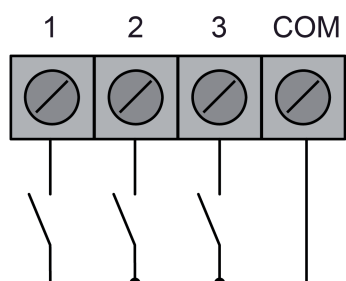

Figure 3: Connection of potential-free contacts to the extension inputs
- (3) Slide-in shaft for rotary knob with push-button (incremental encoder)
- (4) Terminals for extension inputs
- (5) KNX bus connection
- (6) Device with supporting plate
- (7) Design frame (accessories)
- (9) Design control button (accessories)
- Connect KNX bus line with terminal to bus connection (5).
- Optionally, connect potential-free contacts to the extension inputs (4) (figure 3).